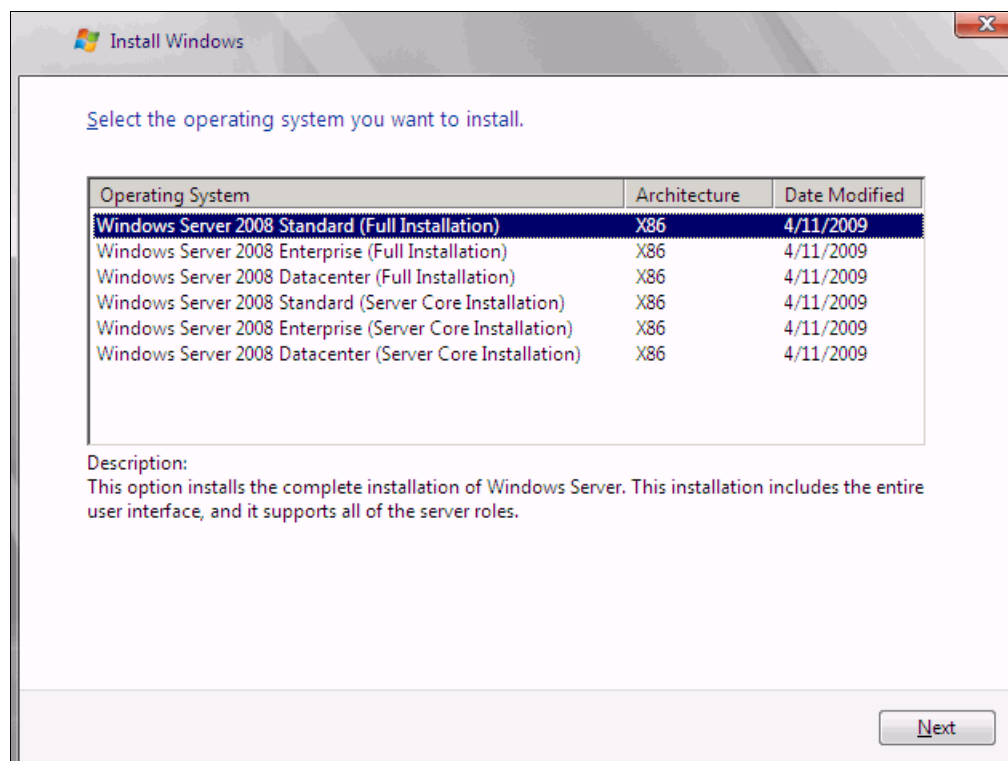

Figure 9-178 Selecting the operating system
12. Select the operating system that you want to install (Figure 9-178), and then click **Next**.